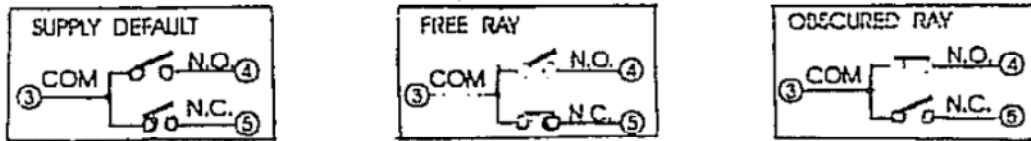

fig.4 RELAY CONTACTS SETUP
3) Connect the relay output contacts on the receiver according to the requirements. The figure 4 shows the relays contacts setup.